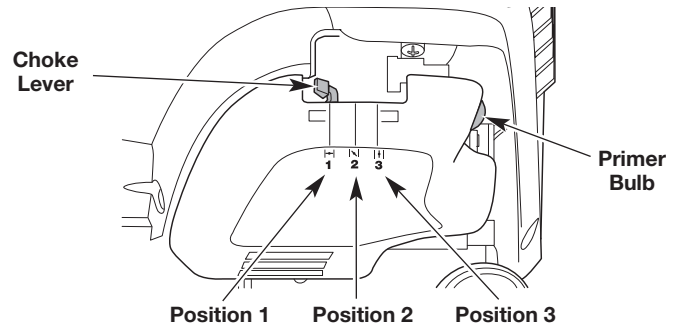

Fig. 9
3. Slowly press and release the primer bulb **10 times** (Fig. 9).
4. Move the choke lever to **Position 1** (Fig. 9).
7. Continue to squeeze the throttle control. Move the choke lever to **Position 2** (Fig. 9).
10. Continue to squeeze the throttle control. Move the choke lever to **Position 3** (Fig. 9) and continue warming the engine for an additional 60 seconds. The unit may be used during this time.
2. Press and hold the On/Off switch in the OFF (O) position until the engine comes to a complete stop (Fig. 9).
8. Continue to squeeze the throttle control. Move the choke lever to **Position 2** (Fig. 9).
12. Continue to squeeze the throttle control. Move the choke lever to **Position 3** (Fig. 9) and continue warming the engine for an additional 60 seconds. The unit may be used during this time.